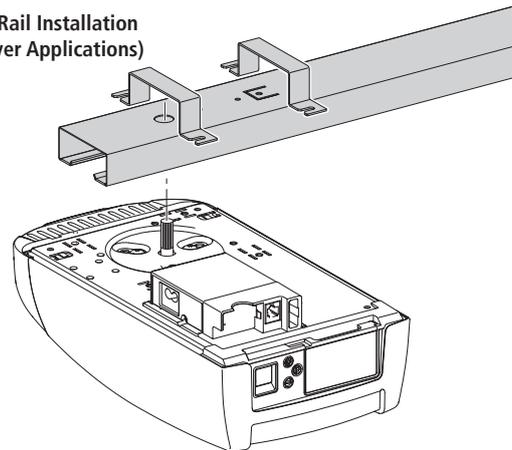

Fig. 18
- Remove and save the two phillips head screws that are securing the door arm pin and straight door arm (Fig. 18).
- Curved door arm should already be attached to trolley in place of straight door arm. See Fig. 18, p. 10.